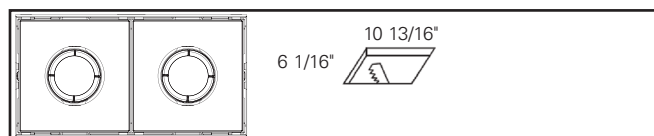

Figura 1.10.
- Dos luces: 10 13/16 in X 6 1/16 in (Figura 1.10)